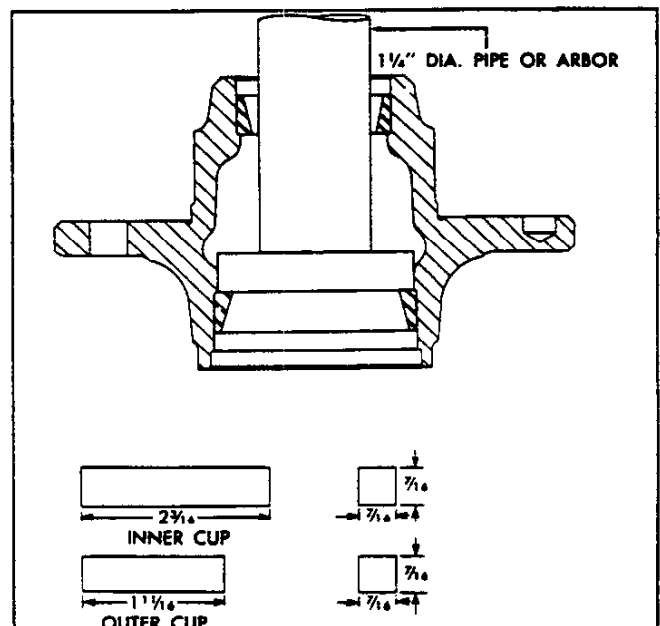

Fig. 8—Front Wheel Bearing Cup Removers
1. Make two bearing cup removers out of $\frac{7}{16}$ " square steel stock as shown in Figure 8.